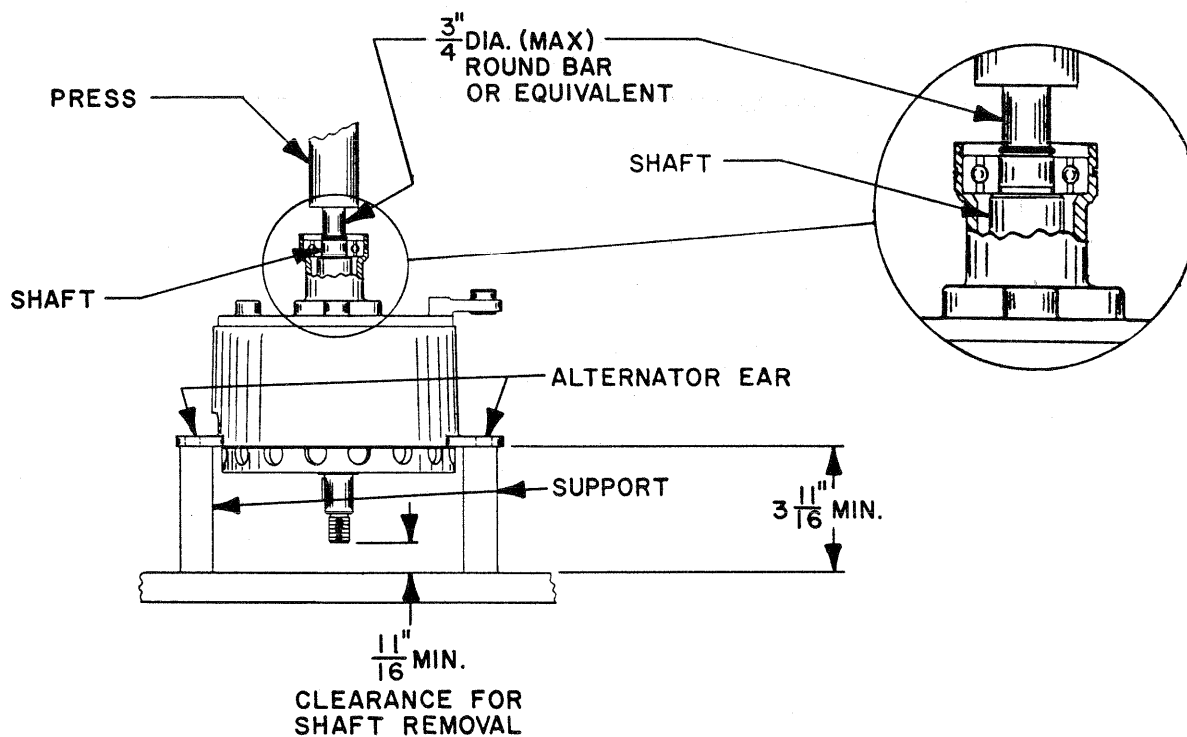

FIG. 6
- C3. Rotor and Shaft Assembly Removal - Support alternator housing in hydraulic press as indicated and press out rotor and shaft assembly. See Fig. 6.